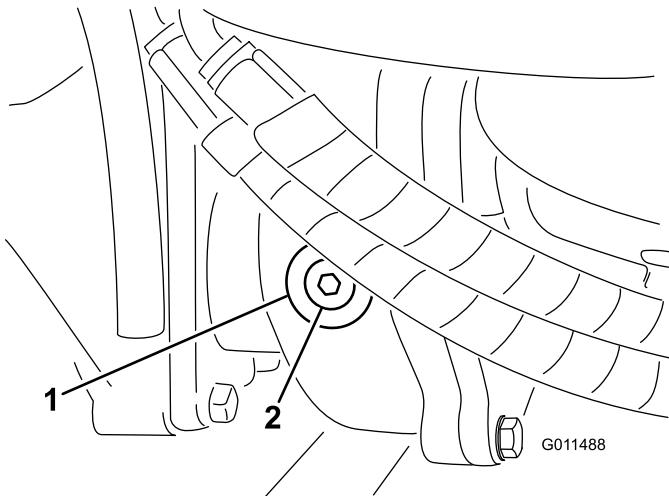

Figure 98
- Remove the check/fill plug from the left side of the gear box (Figure 98) and make sure that lubricant is up to the bottom of the hole. If the